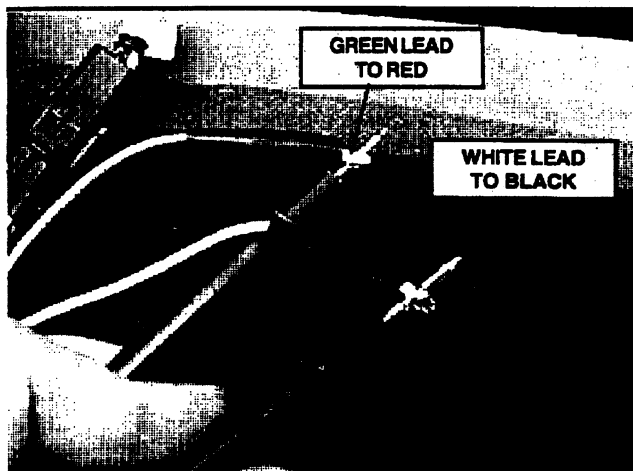

FIGURE 9.2A
3. Connect leads from meter to the Test Harness Leads, and record reading from meter. See Figure 9.2A.
4. Remove cap from the Red & Black wire harness, attach test harness, connect leads from meter to Test Harness and record reading. See Figure 9.2A.